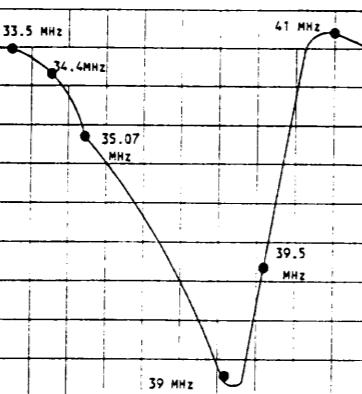

Fig 3.
Alignment Step (see fig 3)
- Adjust T102 to obtain maximum amplitude of waveform and the maximum gain of 39.5 MHz as in fig 3.